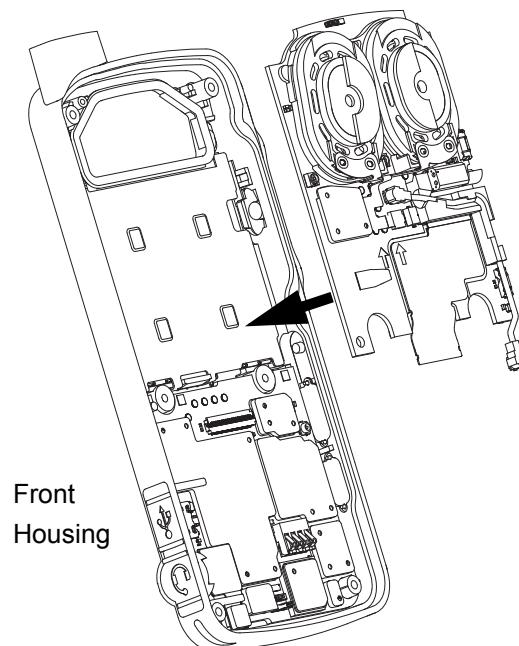

Figure 5-25. Interface board reassembly
1. Insert the interface board into the front housing by sliding it under the PCB retainer catch as shown in Figure 5-25